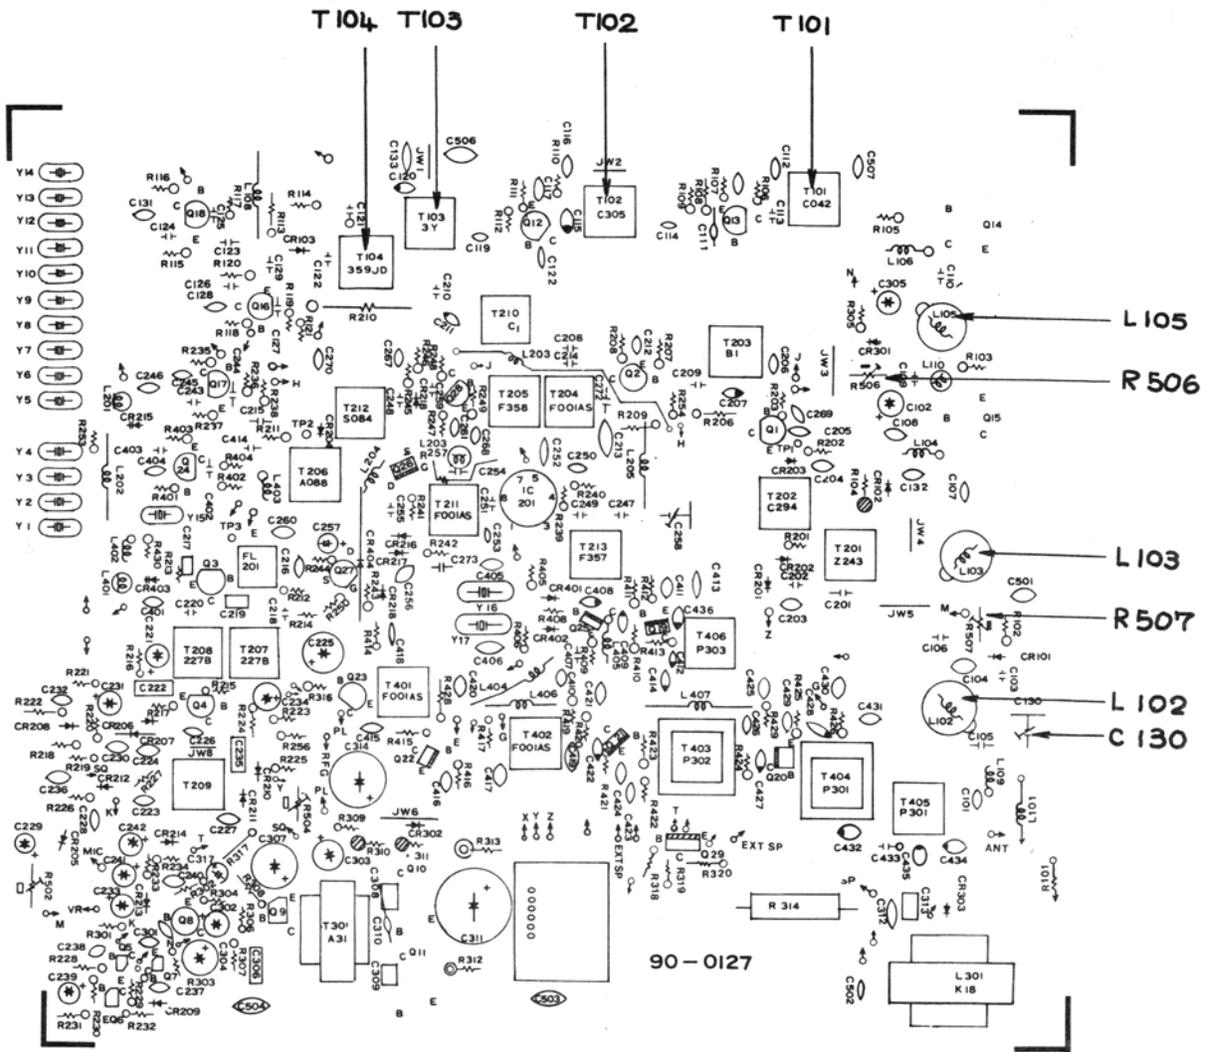

Figure 4-1 Transmitter Adjustment Locations
4.4 TRANSMITTER ADJUSTMENT (See Figure 4-1 for adjustment locations)